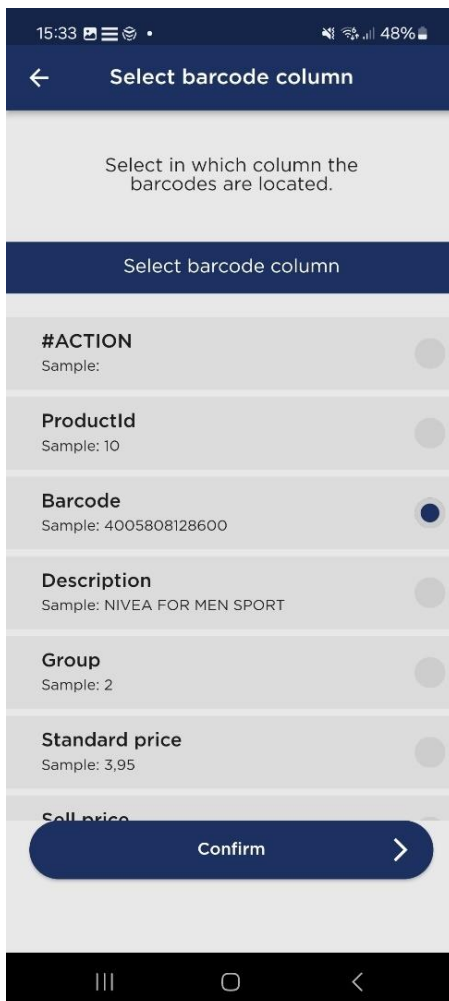

Figure 8-6: The *Select barcode column* page.
- Once the CSV file is selected, you will be prompted to select the barcode column. Select the appropriate barcode column from the list and press **Confirm** to continue (see Figure 8-6).